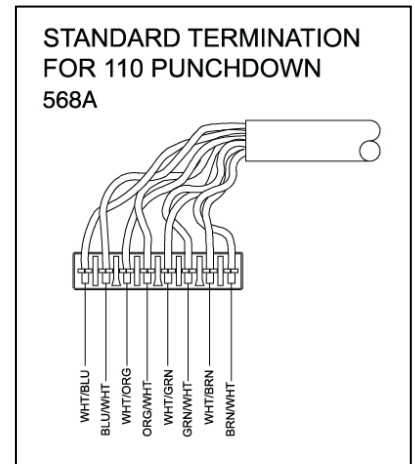

Figure 3
- B. Incoming Service Cable Installation (see **Figure 3**)
- 2) Strip off 4" of outer jacket and position pairs over color-coded slots of connector (see **Figure 3**).
- 3) Without untwisting cable, position the wires in the individual slots and punch down and trim each wire (see **Figure 3**).
C. Outlet Cable Termination (see **Figure 3**)
D. Wide Area Network Cable Termination (see **Figure 3**)